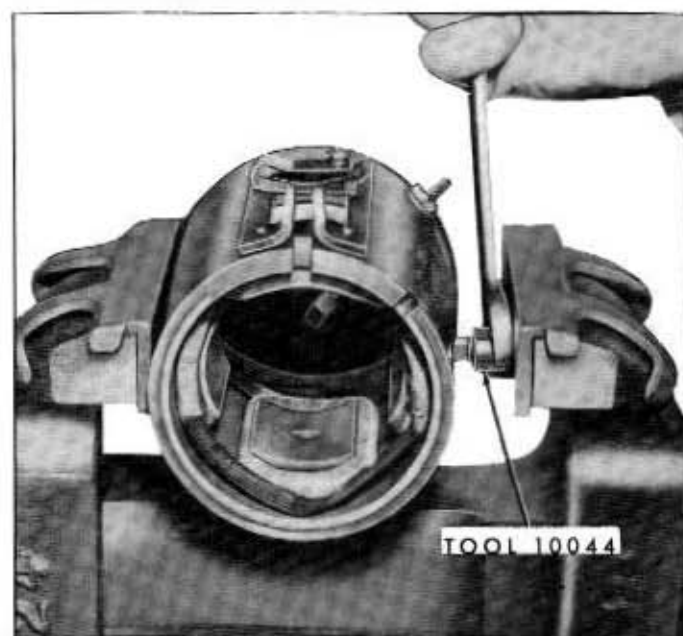

Fig. 9-34—Removing Pole Screws — Starter—(60C-7692)
1. Insert the starter frame and pole screw remover tool 10044 in a vise; remove the three pole screws securing the field coils to the starter frame. See figure 9-34.